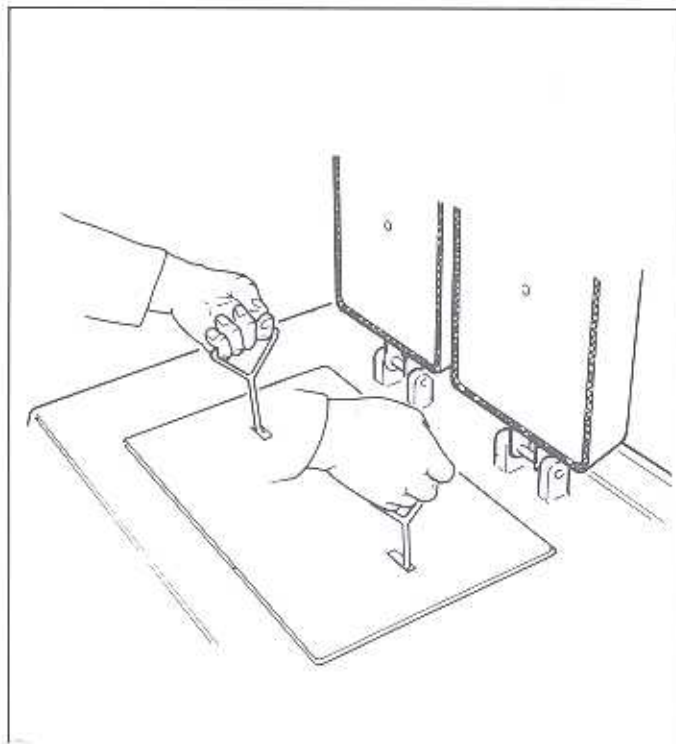
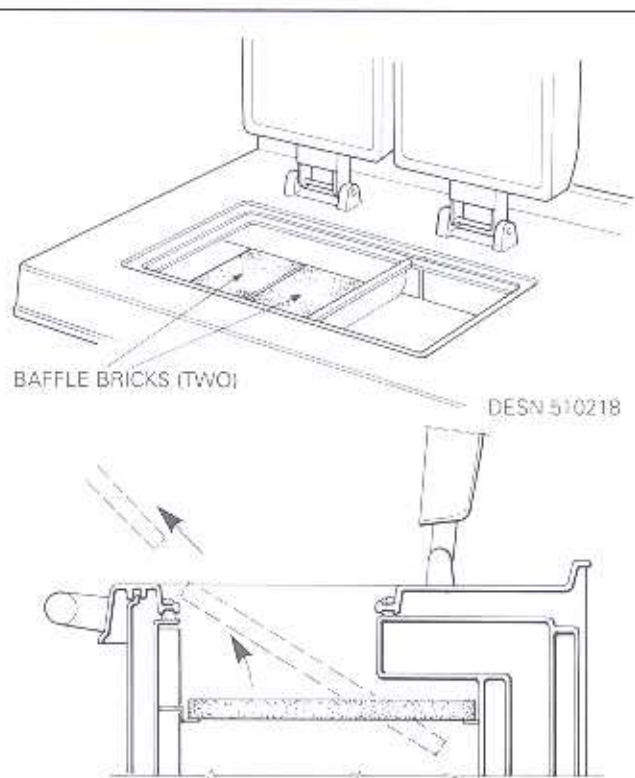

Fig. 9 - Removal of Hotplate
Fig. 10 - Removal of Baffle Bricks
4. Lift up the insulating covers and remove the hot plate (see fig. 9 under commissioning instructions). The removal will expose the two brick baffles (see fig. 10 under commissioning instructions).
Lift out the hot plate (see Fig. 9). Carefully remove the two baffle bricks which are fitted under the hot plate by separating them and lifting at the front (see Fig. 10).